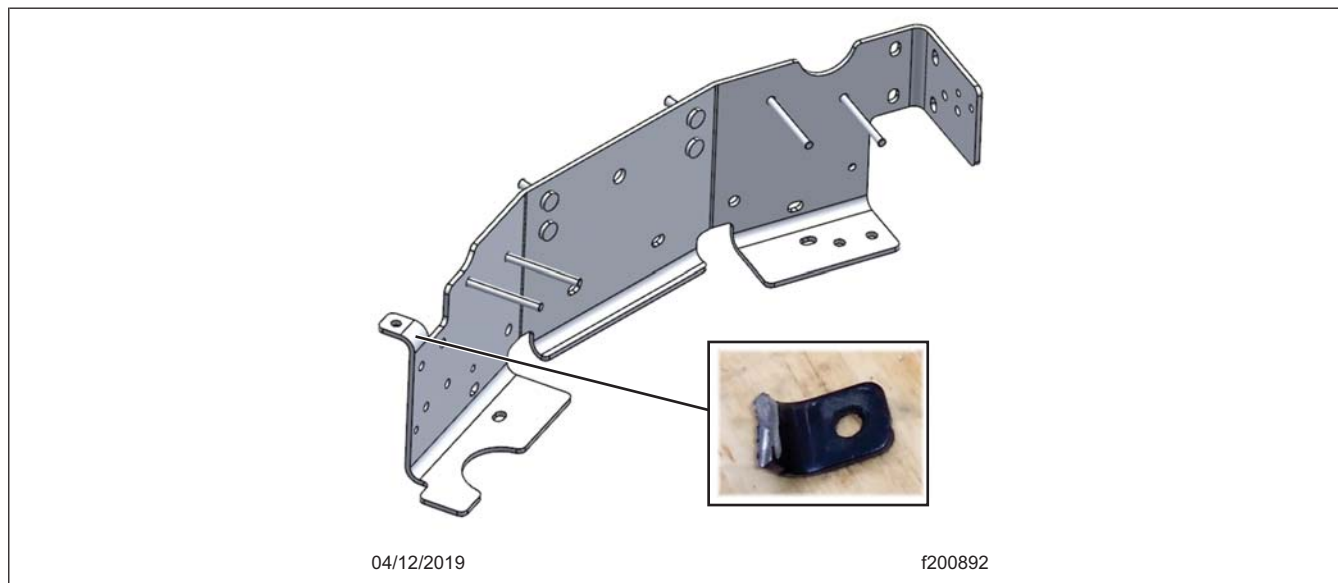

Fig. 4, Tab to Remove
8. Cut the tab off the brake valve bracket. See Fig. 4.